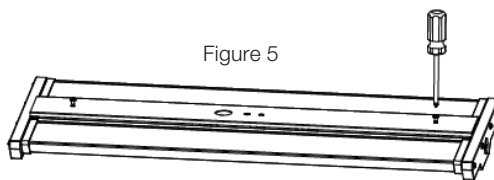

Figure 5
STEP 1: Open the cover with a screw driver (Figure 5).